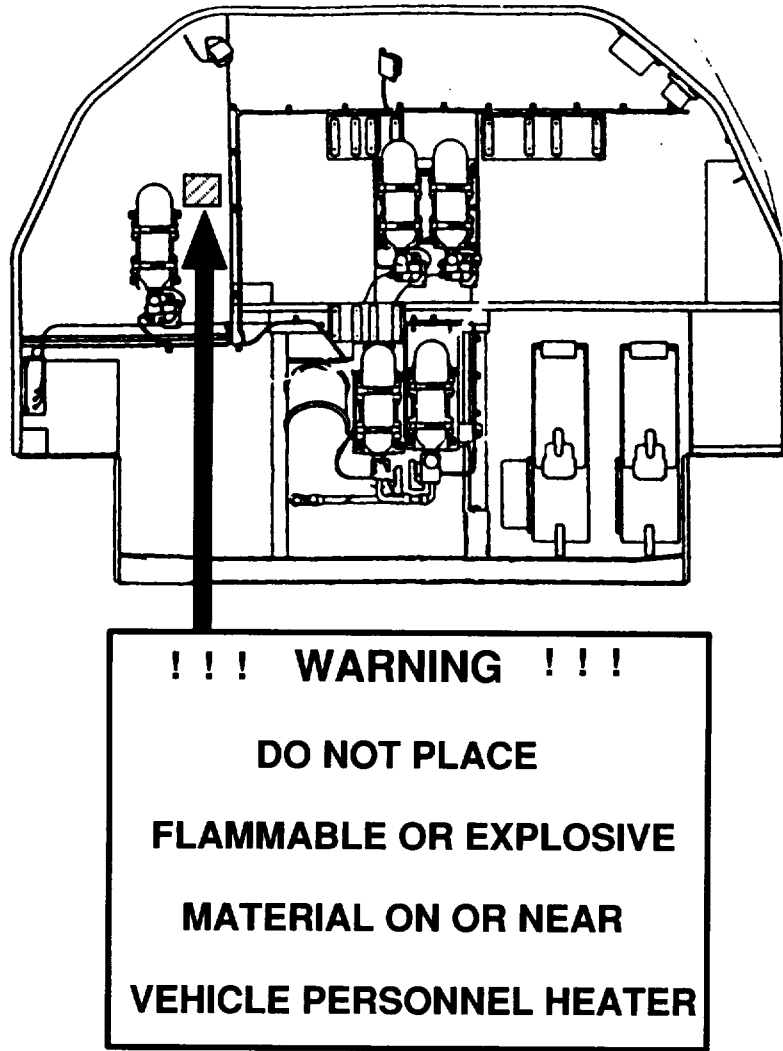

Figure 8
27. Remove protective backing from label * 12268539 and position on APU Bulk Head Wall as shown in Figure 8.